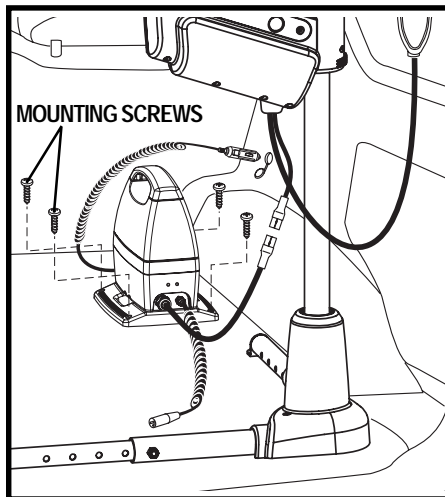

Figure 3. Battery Pack Installation
1. Determine a location to mount the battery pack to the vehicle. See **figure 3**.